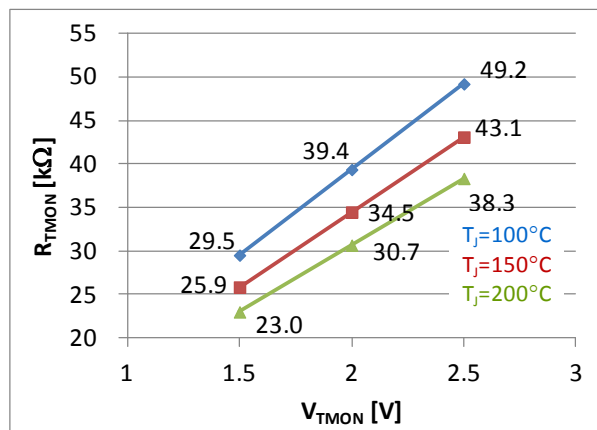

Figure 36. V_{TMON} vs. R_{TMON}
For example, if a 2 V V_{TMON} is required when the driver T_J reaches 150°C, the calculated R_{TMON} value is 34.5 kΩ. Figure 36 shows the relationship among V_{TMON} , R_{TMON} and driver T_J based on Equation (1).